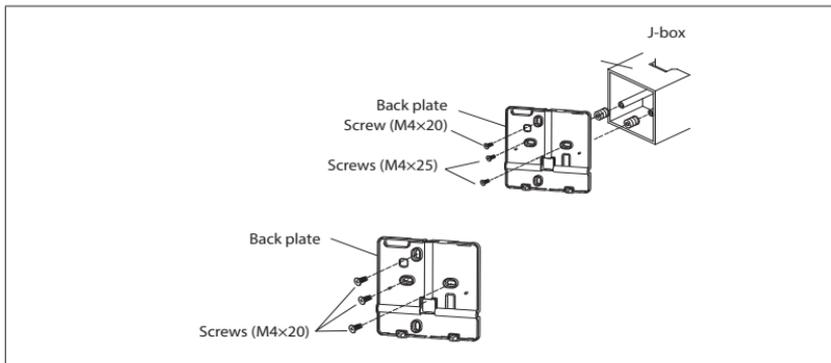

Figure 3. Mount Wall Plate
3. Mount the wall plate as appropriate for your application. See figure 3.
4. Attach the wall plate using the provided screws. See figure 3.